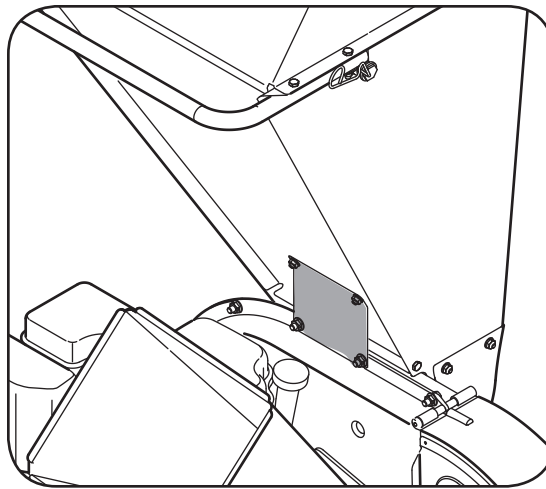

Figure 10
2. Remove the two flange nuts (and hex bolts) which secure the hopper support bracket to the impeller housing. Retain the hardware. See Figure 10.